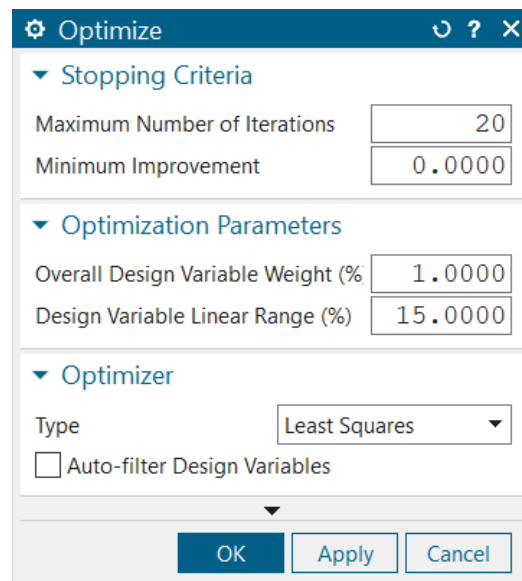

Figure 5: Model Update Optimize Form
3. Figure 5. Overall error is reduced to 0.16%.